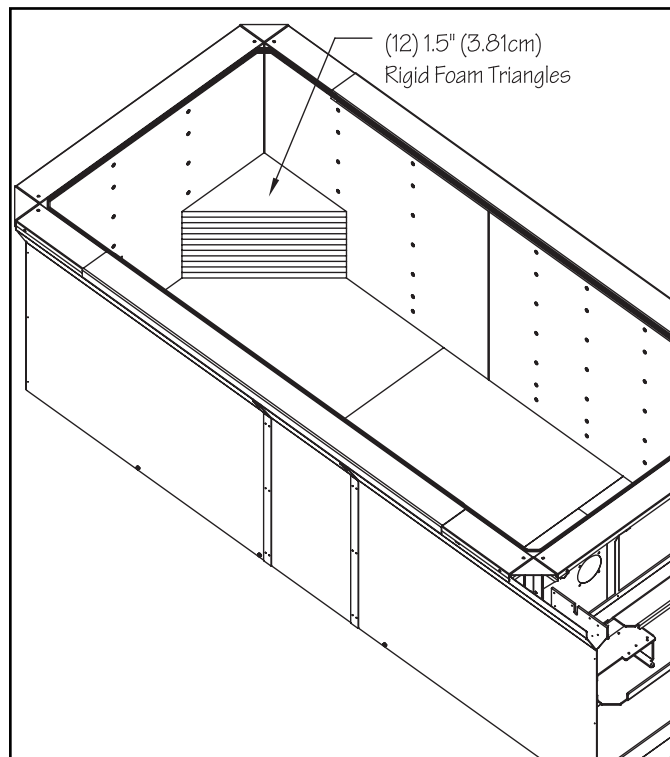

Fig. 25
Position the rigid foam triangles, stacked (12) high, in each rear corner of the pool enclosure. Fig. 25.